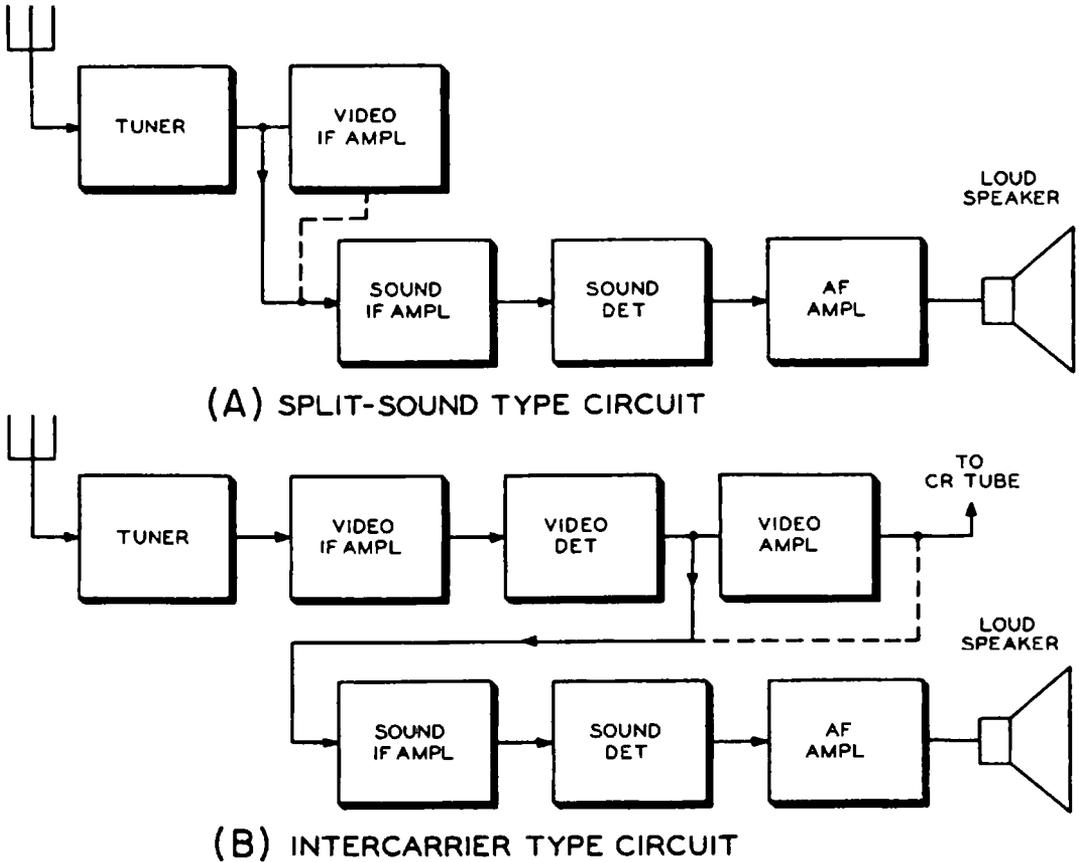

Fig. 10-1. Complete sound signal paths for (A) split-sound type and (B) intercarrier type TV receivers.
In order to troubleshoot in cases of sound troubles, we should keep clearly in mind the *path* through which the sound signals must pass in order to be properly reproduced. The complete sound paths for (A) split-sound and (B) intercarrier receivers are shown in Fig. 10-1. In the split-sound type, the sound signal is intercepted with the video signal by the antenna and applied to the tuner. It appears at the output of the tuner as a sound i-f signal 4.5 mc lower in frequency than the video i-f signal, which also appears at that point. In some receivers the sound i-f signal is separated at this point and fed to the sound i-f amplifier, as indicated by the solid line in the illustration. In other split-sound receivers, the sound i-f signal is amplified together with the video i-f signal in one or two stages of the video i-f amplifier before being separated, as indicated by the dashed line. The sound i-f signal is then applied to the sound i-f amplifier, demodulated in the sound detector, and the resulting a-f signal is amplified in the a-f amplifier and fed to the loudspeaker.
Now consider the intercarrier circuit shown at (B) of Fig. 10-1. The action of the antenna and front end is the same as in Fig. 10-1 (A). However, the whole video i-f amplifier is designed to amplify both the sound i-f and the video i-f signals and applies both of them to the video detector. In the video detector they mix (heterodyne) to produce a third signal, which has a carrier frequency of 4.5 mc, the difference between the carrier frequencies of the two i-f signals. The 4.5-mc carrier is frequency-modulated by the audio signal and, in addition, is amplitude-